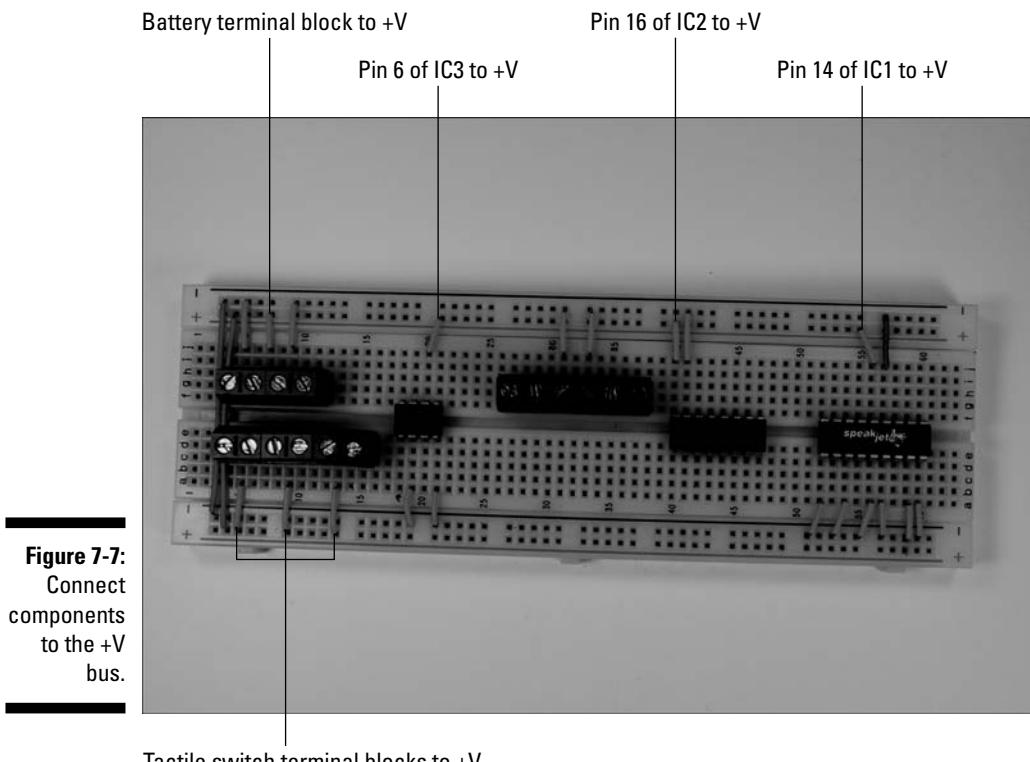

Figure 7-7:
3. Insert wires to connect the ICs and the terminal blocks for the battery pack and the three tactile switches (S1, S2, S3) to the +V bus, as shown in Figure 7-7.